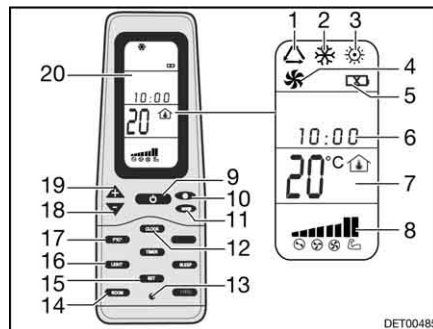

Fig. 159 Remote control
- Press the ON/OFF button (Fig. 159,9).
- Press the "Mode" button (Fig. 159,11) as often as required until the required mode (Fig. 159,1, 2, 3 or 4) is indicated on the display (Fig. 159,20).
- Use the "+" (Fig. 159,19) and "-" (Fig. 159,18) buttons to set the desired temperature.
- Use the fan speed button (Fig. 159,10) to select the desired fan level.